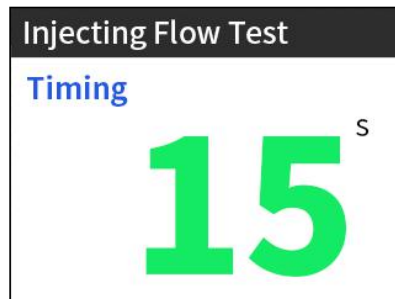

Figure 5.7
- 2) Select [Injecting flow test] on the main interface and press [Run] button. The system will start to work. At this time, the pressure can be adjusted via [Pressurization] and [Depressurization] buttons, as shown in Figure 5.7.